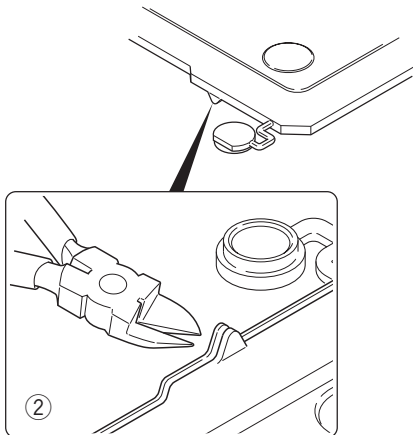

Fig. 7-3
Note : If the GPS receiver is installed, cut the base of the convex tab of the top packing with a pair of nippers, or similar tool. (Fig. 7-3 ②)